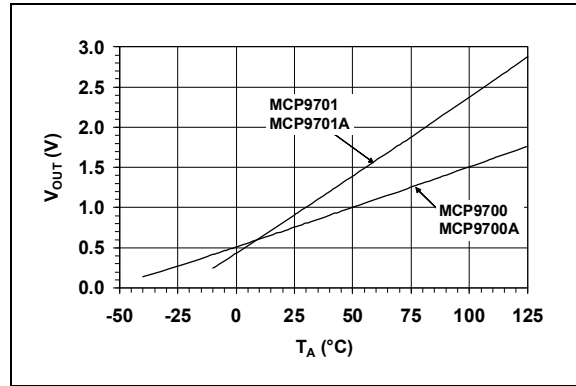

FIGURE 2-16: Output Voltage vs. Ambient Temperature.
3: The MCP9700/9700A and MCP9701/9701A family is characterized using the first-order or linear equation, as shown in Equation 4-2. Also refer to Figure 2-16.
- 3:** The MCP9700/9700A and MCP9701/9701A family is characterized using the first-order or linear equation, as shown in Equation 4-2. Also refer to Figure 2-16.
The Linear Active Thermistor™ IC uses an internal diode to measure temperature. The diode electrical characteristics have a temperature coefficient that provides a change in voltage based on the relative ambient temperature from -40°C to 150°C. The change in voltage is scaled to a temperature coefficient of 10.0 mV/°C (typical) for the MCP9700/9700A and 19.5 mV/°C (typical) for the MCP9701/9701A. The output voltage at 0°C is also scaled to 500 mV (typical) and 400 mV (typical) for the MCP9700/9700A and MCP9701/9701A, respectively. This linear scale is described in the first-order transfer function shown in Equation 4-1 and Figure 2-16.